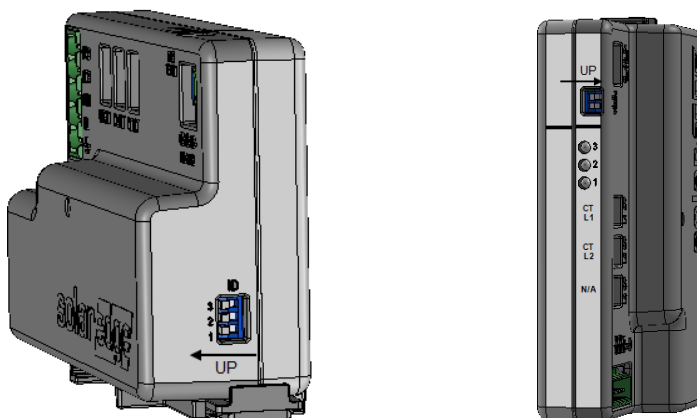

Figure 35: ID and termination DIP switches
7. In the meter, ensure the RS485-1 DIP switch is down. See *Figure 35*.